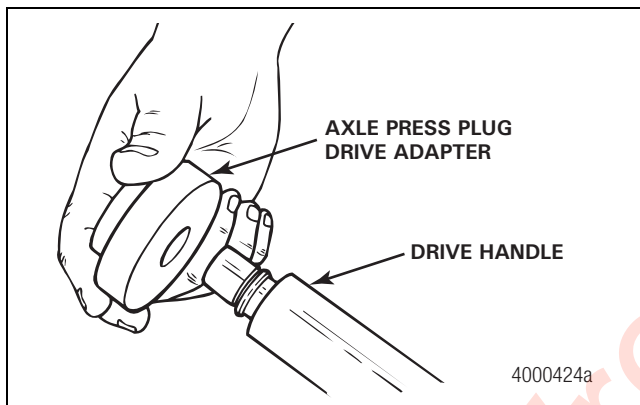

Figure 2.16
11. Install the axle press plug drive adapter onto the drive handle. Figure 2.16.